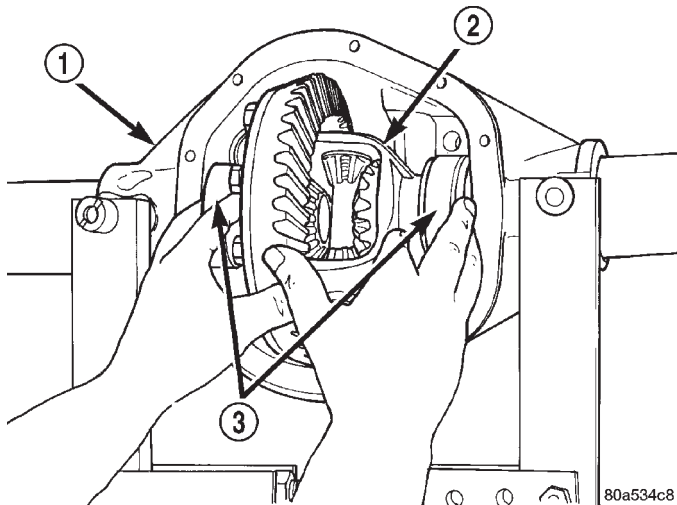

Fig. 32 Differential Case Removal
(10) Remove the dial indicator.
(11) While holding the differential case in position, remove the differential bearing cap bolts and caps.
(12) Remove the differential, and the differential preload shims for the 181FBI axles, from the housing. Ensure that the differential bearing cups remain in position on the differential bearings (Fig. 32).
(13) Mark or tag the differential bearing cups, and the differential preload shims for the 181FBI axles, to indicate which side of the differential they were removed from.
(14) Remove spreader from housing.